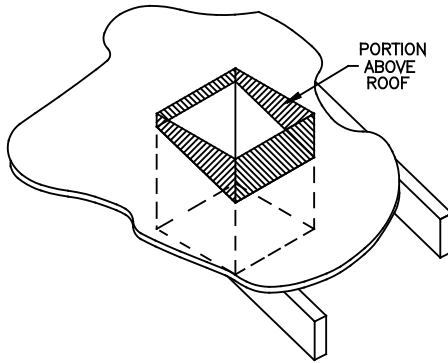
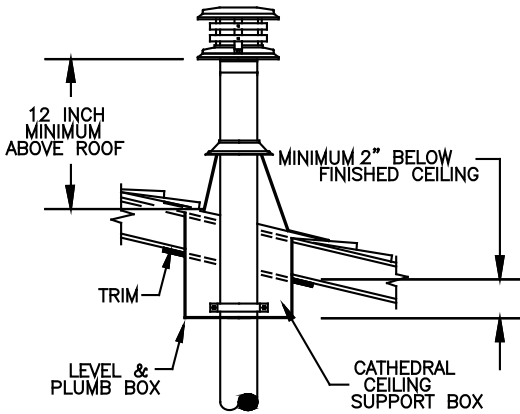

Figure 30
Figure 31
6. Run the Support Box through the roof as shown in (Figure 30), and place it so that the bottom of the Support Box protrudes at least 2 inches below the low side of your opening in the finished ceiling (Figure 31). Align the Support Box vertically and horizontally with a level. Temporarily tack the Support Box in place through the inside walls and into the roof sheathing.